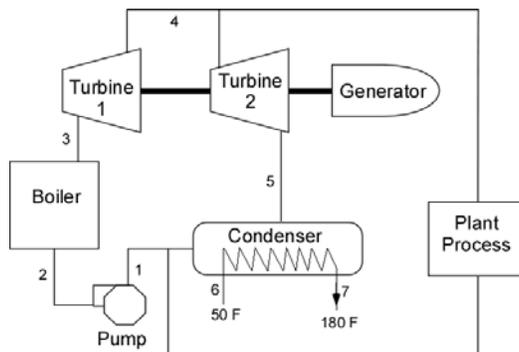

Figure 8.A-7: Cogeneration plant for the paper industry
8.A-7 Cogeneration is important in the paper industry because paper manufacturing requires large amounts of hot water, low pressure steam, and electricity. In a particular case, 50,000 lb_m/hr of steam at 170 psia and 9000 kW of electrical power are needed in addition to a hot water supply at 180°F as shown in Figure 8.A-7. These needs can be supplied by the system proposed in the figure.